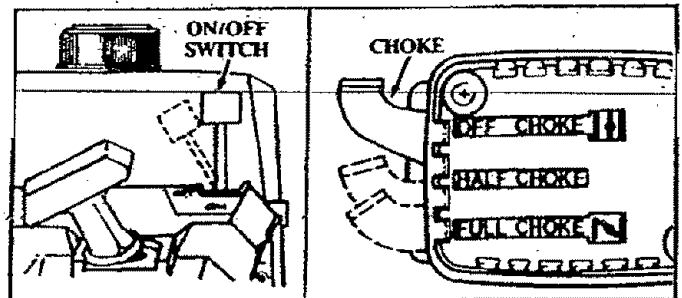

Figure 11
- a. Move On/Off Switch to "on." Figure 11.
- Move On/Off Switch to "on." Figure 11.
- Move On/Off Switch to the "Off" position. Figure 11.